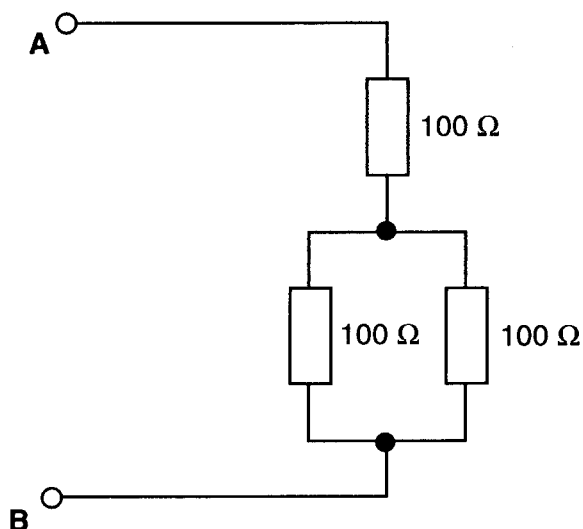

Fig. 6.1
- 6 Three equal resistors each of $100\ \Omega$ resistance are connected in the circuit shown in Fig. 6.1.